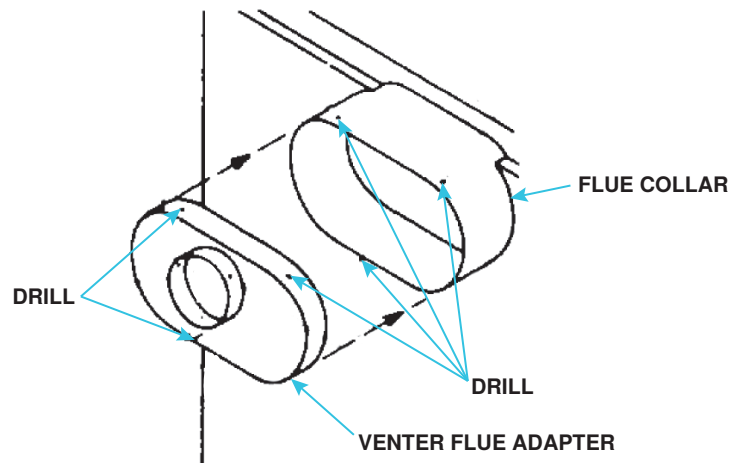

Figure 3. Venter Flue Adapter Installation
2. Install venter flue adapter (see Figure 3):